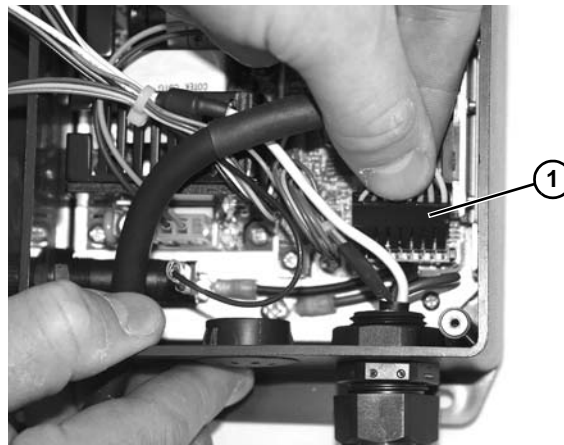

Figure 38
5. Remove wiring connector (Figure 38, item 1) from main board.